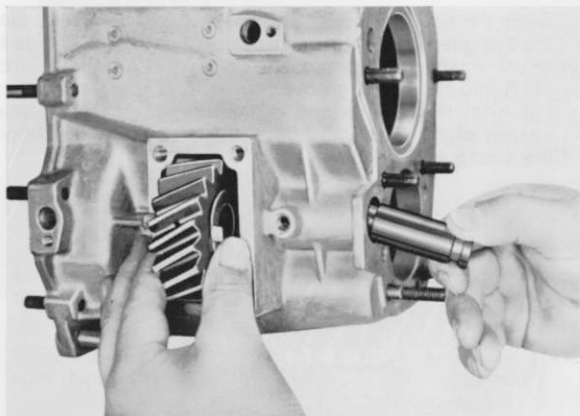

Fig. 24
1. Put needle cages (503) into reverse gear bore (502) and stick needles with grease. Stick a thrust washer (501 and 510) on each side of the wheel with grease (the turned down flaps lie outwards). Put the reverse gear into the housing. Push the reverse idler shaft with the smaller ϕ first into position in the housing bore from the output side (Fig. 24). Take care that the thrust washers are not damaged by the shaft.